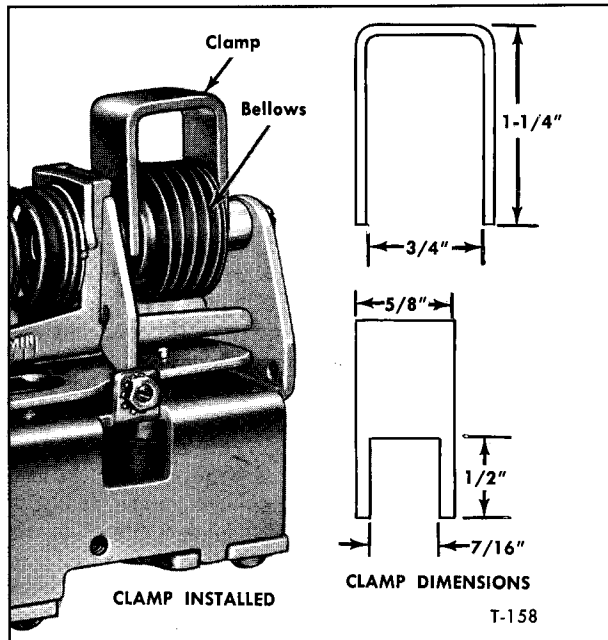
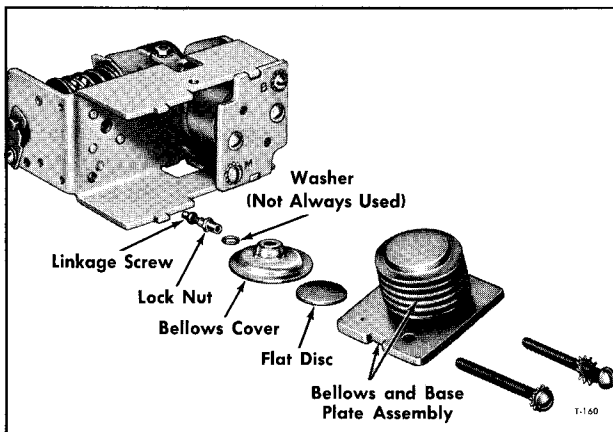

Figure 12—Bellows Clamp Installed
Figure 13—Barometric Bellows Components
1. Place a bellows clamp (11) to prevent over-expansion of the bellows (fig. 12) when it is removed. NOTE: Clamp can be fabricated locally from 3/32-inch stock using dimensions shown in figure 12.
2. Loosen locking latch screw (4), disengage latch (2), from adjusting screw (3), then turn adjusting screw clockwise until the indicator (7) is at its low end and the tension on the main spring (8) is relieved. Slip out the main spring (8) spring seat (21) and indicator assembly (7). If necessary, loosen scale (5) mounting screw.
3. Temperature bellows (11) may be removed by removing bellows mounting screw on both ends of bellows.
4. Loosen main lever pivot screws (19) and lift out main lever (9).
5. Remove the two screws holding the secondary lever (12) and lift out secondary lever. It may be necessary to loosen the indicator bracket screw before lifting out the secondary lever if the lock washer under this screw overlaps the lever. Remove barometric linkage screw (17) with small flat washer, bellows cover and flat disc. These components are shown in figure 13.
9. Remove air valve assembly (14) from its support plate by removing two attaching screws, taking care not to damage sealing surfaces.
10. Remove barometric bellows (15) with base plate by unscrewing the two screws that hold it in place. Figure 13 shows bellows removed.
9. Using a new gasket if required, install air line manifold (13) by aligning marks made at disassembly. Tighten two mounting screws evenly to prevent air leakage.
10. Install barometric bellows (15) by inserting barometric bellows linkage screw (17) with lock nut into hole in secondary lever (12). Install bellows cover, flat disc, and bellows with base plate. Install two screws that hold barometric bellows base plate to Grad-U-Stat frame. Figure 13 shows components removed.